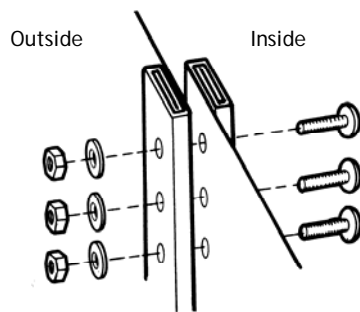
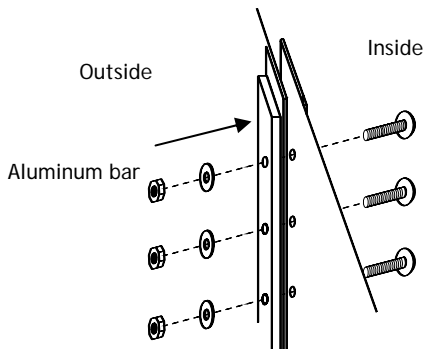

Figure 3.7
Figure 3.9
- If the pool walls do not meet or are overlapping too far, gently tap each of the footplates from the outside or inside. You will slightly change the circumference of the wall enabling it to fit perfectly. When joining the pool wall, make sure the folded end of the wall is facing the inside of the pool, and the other folded end is outside the pool (figures 3.7 and 3.8). For a wall with aluminum bars, make sure that the bars end up inside and outside the pool (figure 3.9 et 3.10). To assure stability during installation and avoid damaging the wall, use tape to temporarily attach the pool to the posts.
- Bolt heads must be inside and nuts and washers outside (figures 3.7 and 3.9).
- File off any burrs and cover all bolt heads with a heavy fabric tape before you put in the vinyl liner. (figure 3.7 and 3.9 inside)